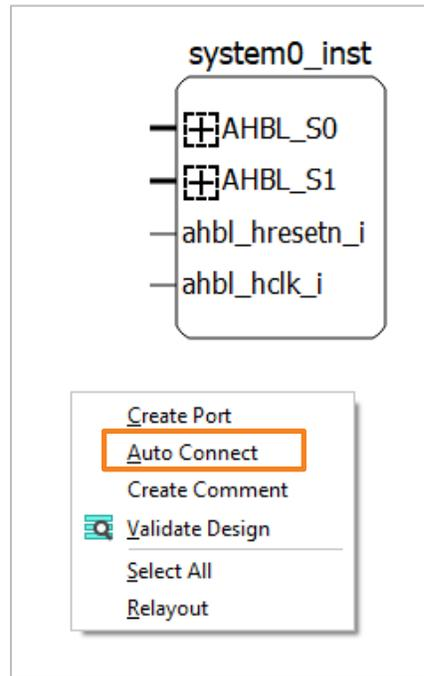
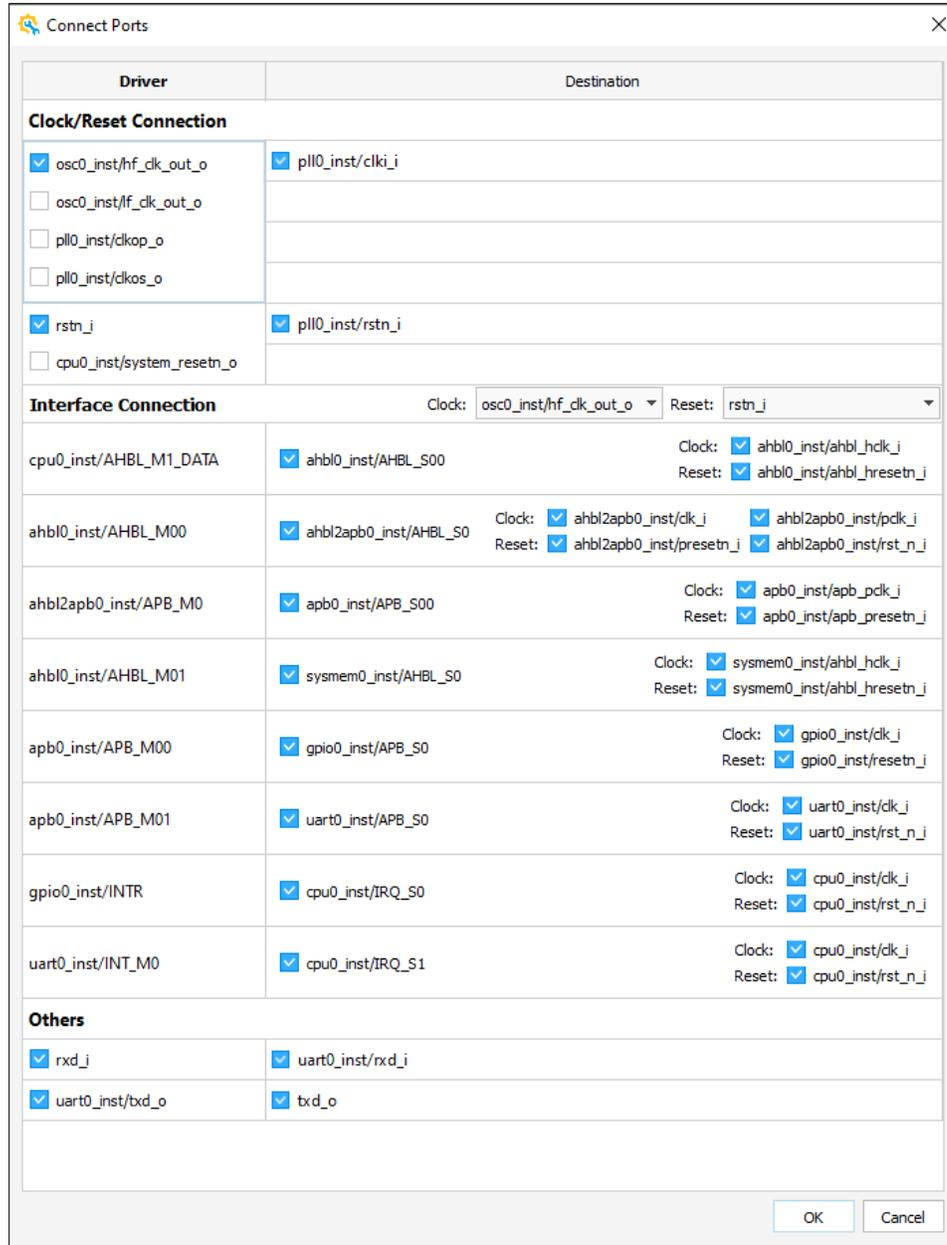

Figure 2.51. Action Menu of Right-clicking on a Blank
Figure 2.52. Action Menu of Connecting Ports
1. Right-click on Schematic view and choose **Auto Connect** (Figure 2.51). The Connect Ports dialog appears (Figure 2.52).
2. By default, **Auto Connect** selects all ports. You can also deselect the interface/clock/rest pins that you do not want to auto-connect (Figure 2.52).